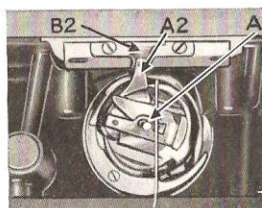

Fig. 54.
**Caution:**—If the throat plate is removed for cleaning the stitch-forming mechanism, etc., **make certain when replacing the throat plate** that the position finger A2 enters the notch B2 of the position plate attached to the underside of the throat plate. (Fig 54.)